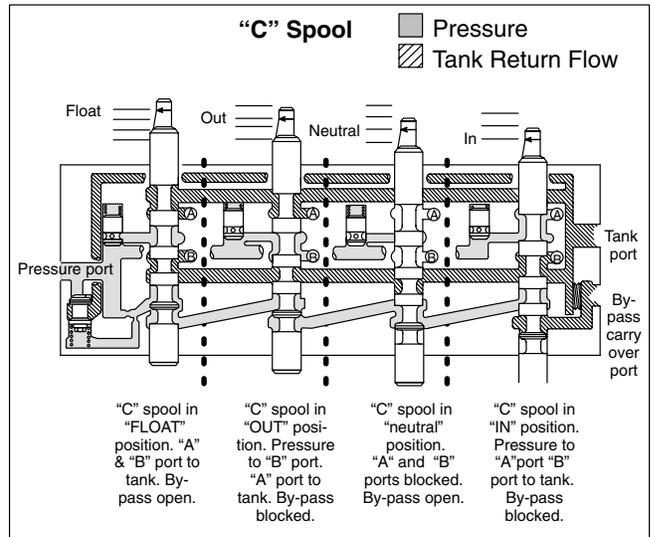

Figure 4.
b. **“C” Float Spools** - “C” spools are double acting with an additional float position. The spool is retained in the float position by a detent, and it is spring centered to neutral from the “in” and “out” positions. Both cylinder ports are open to the tank in the float position to permit free flow of oil in either direction. See Figure 4 for spool position versus flow.